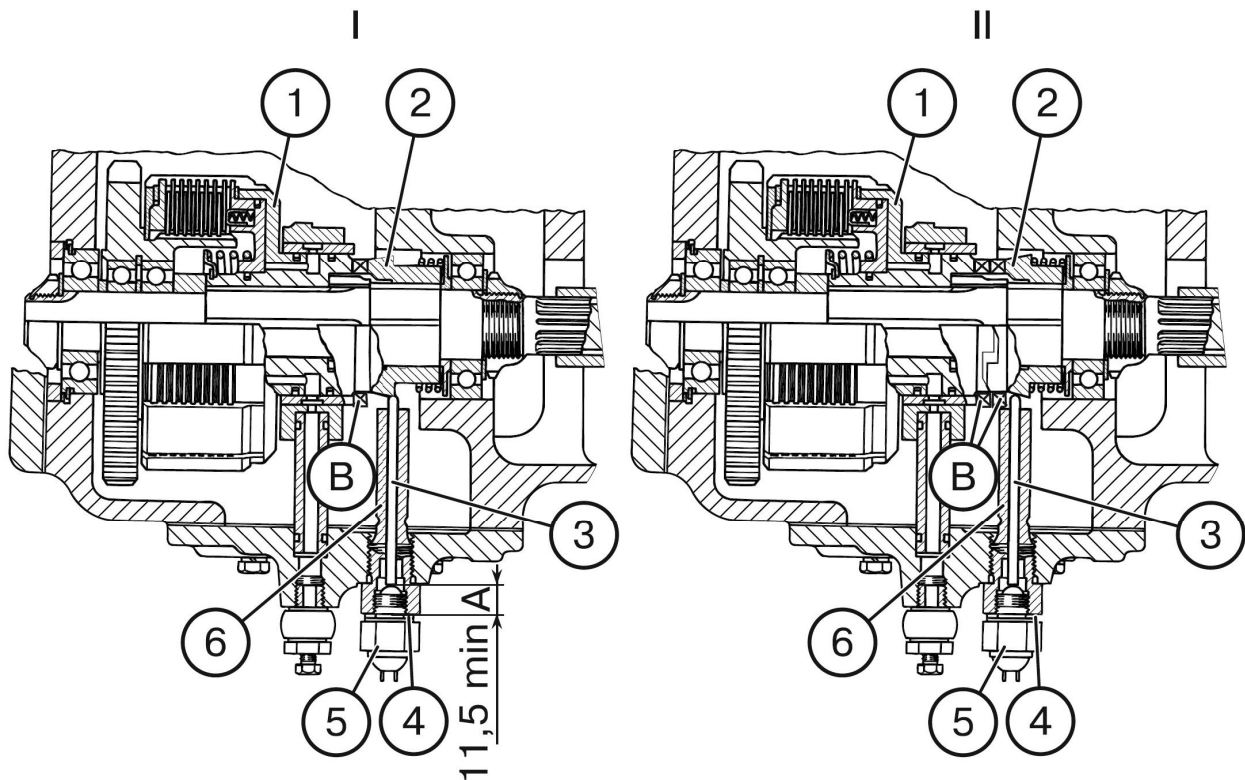

Fig. H-6. Adjusting FDA drive switch
1. Engage cams (B) of half-clutch (2) with drum cams (1), so that pusher (3) was extended from guide (6) to maximum (see Fig. H-6 (I)).
2. Put initial stack of adjusting spacers (4) (5...6 pieces) under switch end face (5).
3. Removing spacers one by one, provide closing of switch contacts (5).
4. Disengage cams (B) of half-coupling (2) from drum clams (1). In this case pusher (3) should be sunk to maximum, and switch contacts open (see fig. H-6 (II)). Switch (5) is adjusted correctly if in position (I) its contacts are closed, and in position (II) are open. To make checking
**Important!** In position (I) (Fig. H-6), dimension "A" from pusher end face (3) to switch end face (5) should be at least 11.5 mm. Failure to observe this requirement may result in switch damage.